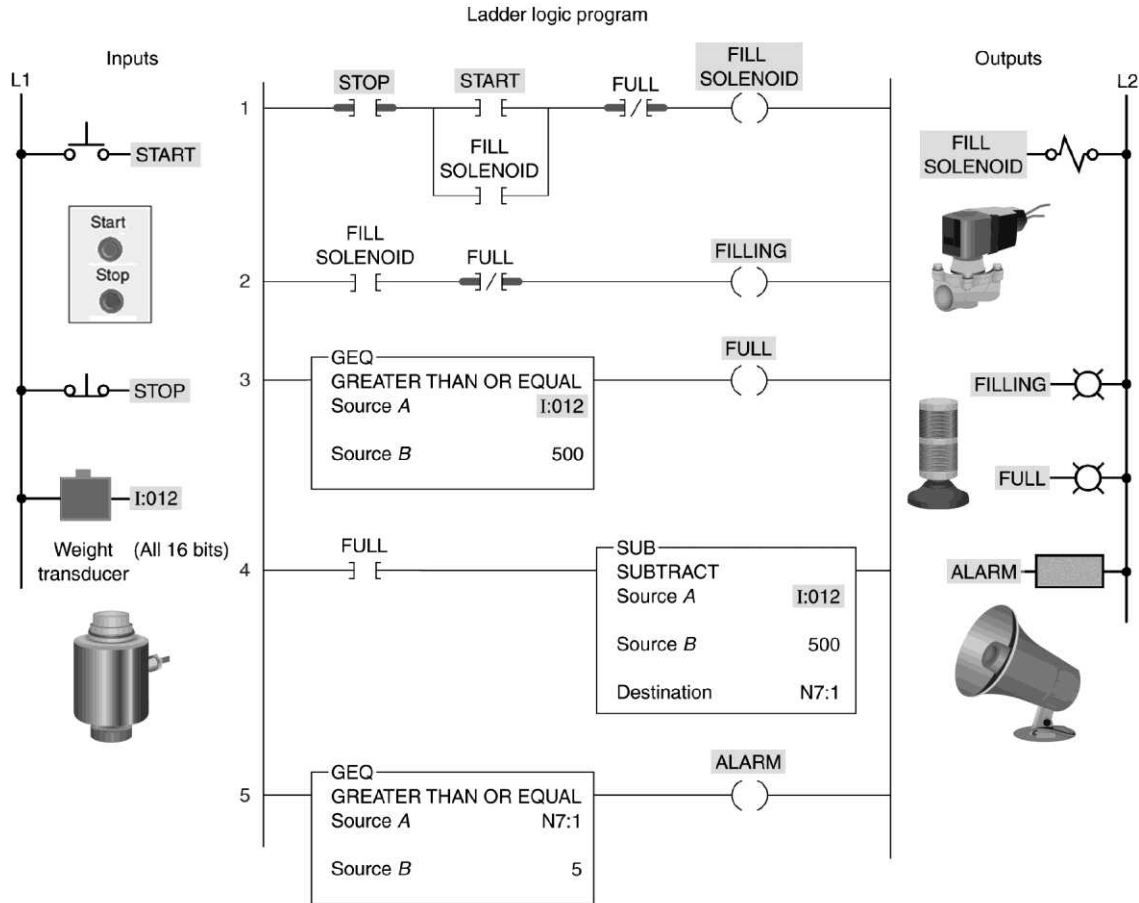

Figure 11-29 Vessel overfill alarm program for assignment 2.
2) The vessel overfill alarm program of Figure 11-29 is described in the text.